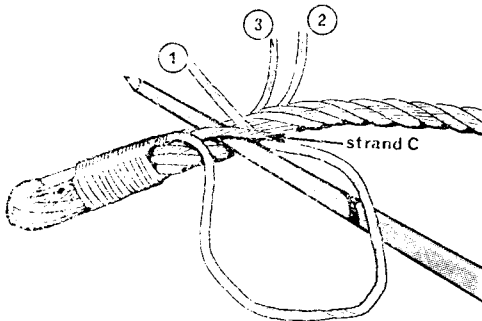

Fig 9.8 Splicing a Hard Eye (4)
- Locate the strand on the standing part nearest to where strand 2 enters the lay of the rope—strand C in Fig 9.8—and lever it clear with the ice pick. Tuck the remaining tucking strand of the first set of three—strand 1 in Fig 9.8.